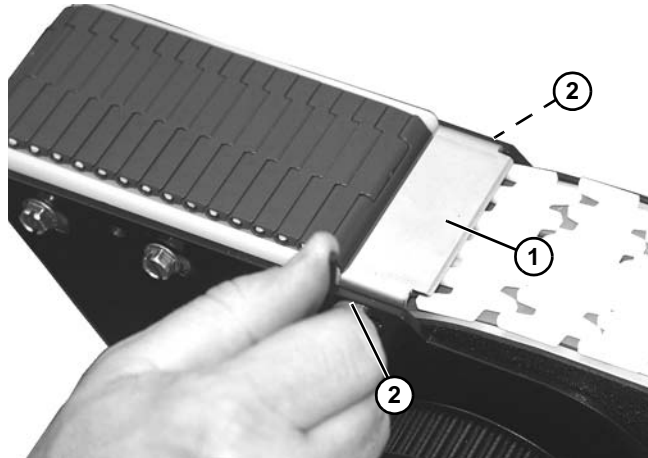

Figure 176
8. Install pinch guard (**Figure 176, item 1**) with two socket head screws (**Figure 176, item 2**).